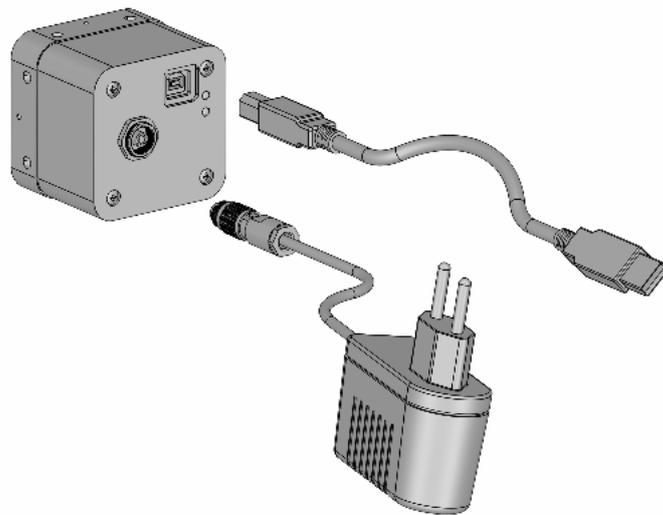

Figure 3.2: Camera with frame grabber, power supply and cable.
6. Connect the camera to a USB 2.0 port at the PC with a suitable USB 2.0 Type B cable (see Fig. 3.2).